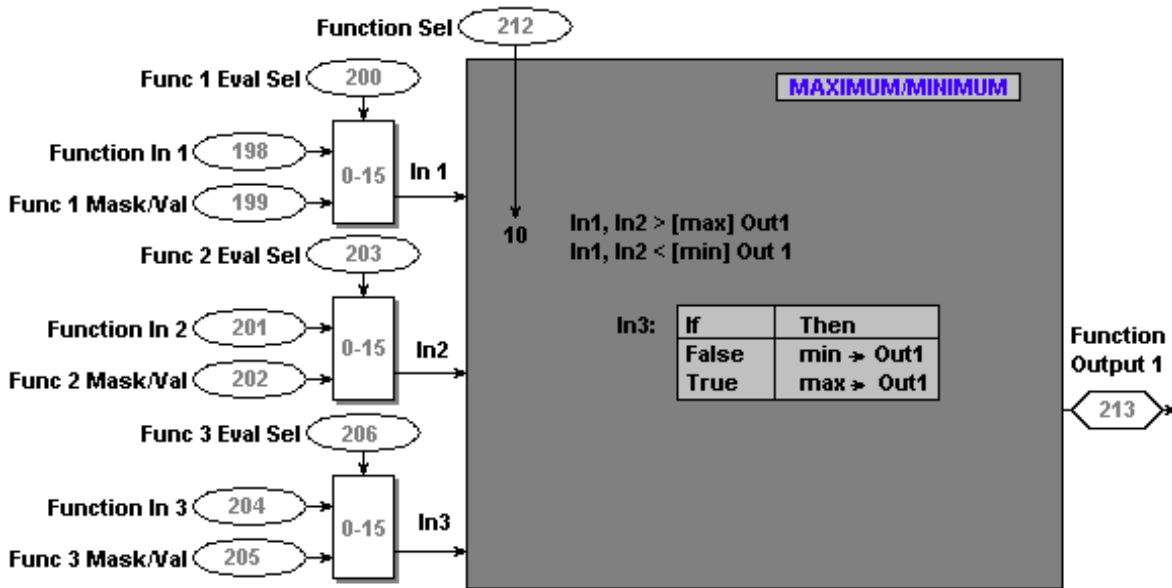

Figure 1
The Maximum/Minimum function block is used to configure the drive with a selector circuit that makes logical decisions based upon the programmed "function" inputs. To configure the drive with the Maximum/Minimum circuit the [Function Sel] parameter (212) must be programmed appropriately. See figure 1.